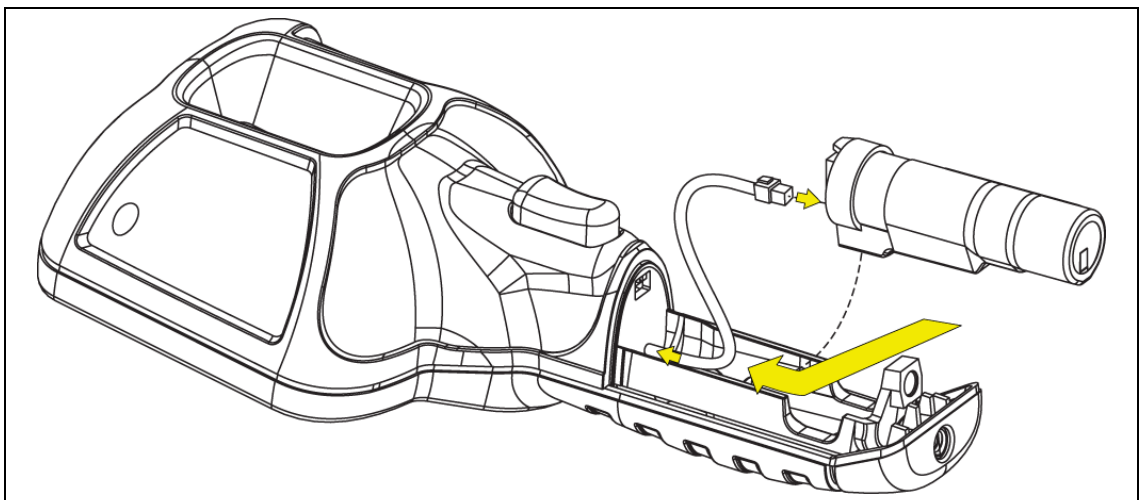

Figure 10-5
- Feed the slacked harness into housing, as you install the battery pack into the housing (Figure 10-5).